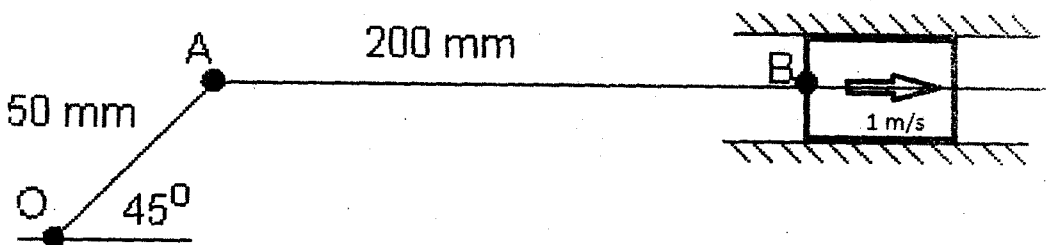

Figure 4
5. The slider of the offset slider crank mechanism shown in Fig. 4 is moving with a constant velocity of 1 m/s towards the right. Using analytical method to determine the angular velocities and accelerations of the crank and the connecting rod for the given configuration (crank angle 45° and AB is horizontal).